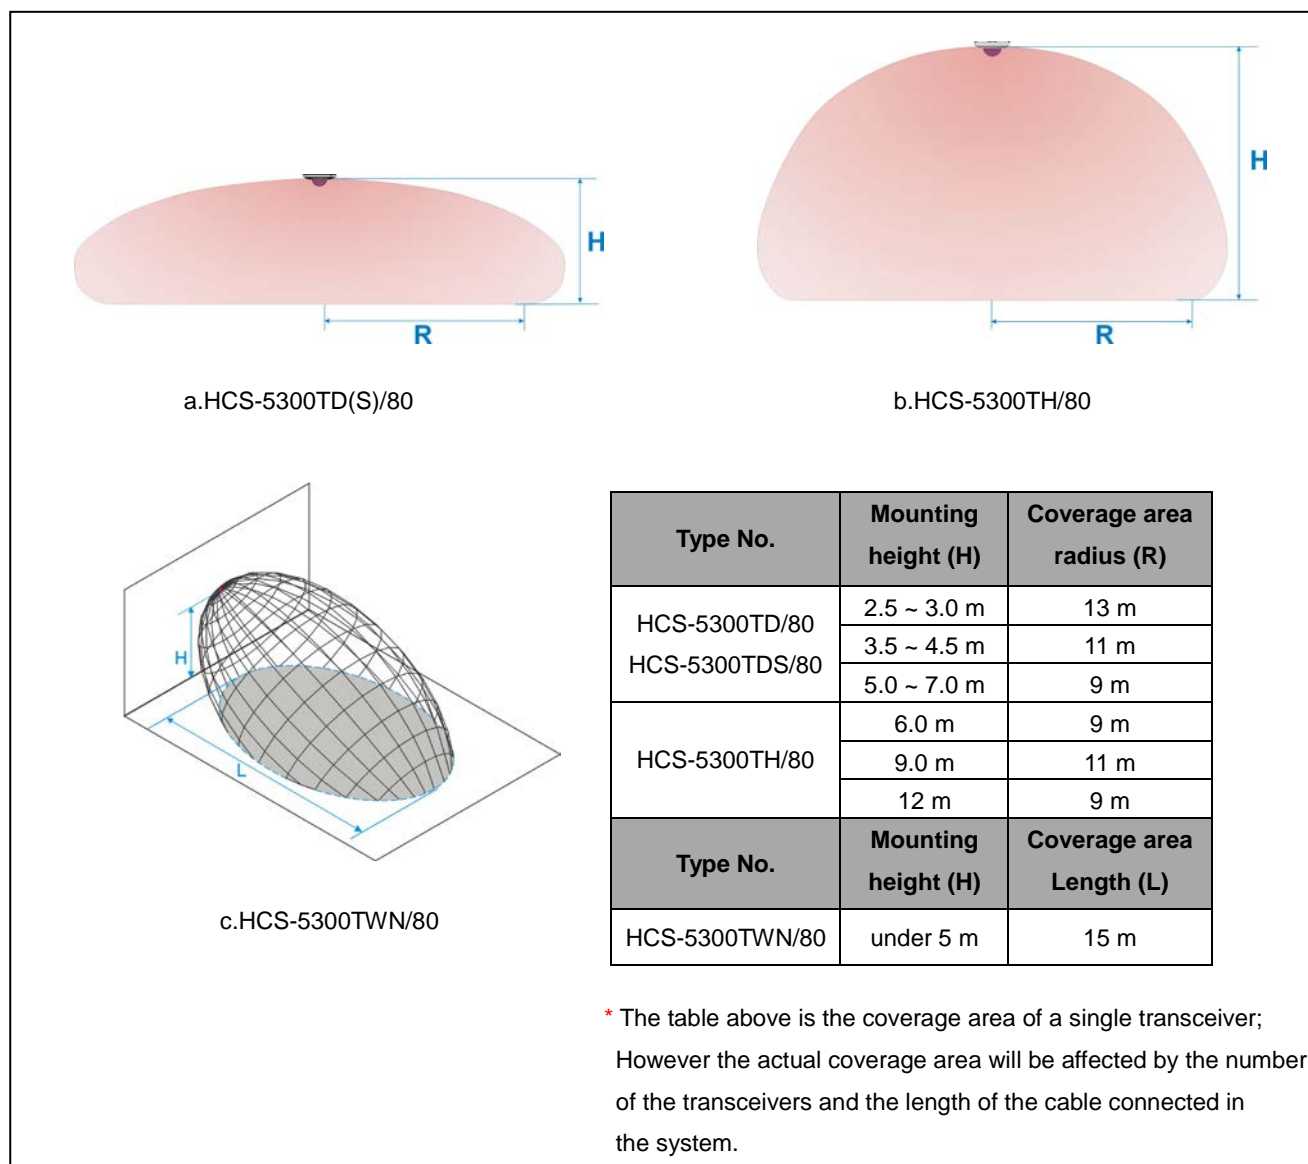

Figure 3.3 Service area of HCS-5300/80 digital infrared transceivers and receiver
2. Select suitable transceiver type according to the height of the conference room and determine the coverage area of a single transceiver (see figure 3.3).